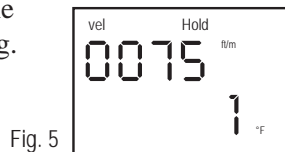

Fig. 5
4. Press MIN/MAX RECORD. Release the button when you hear a single beep. The LCD will show a number from 1-8 representing the reading point that was saved (fig. 5). The unit will return automatically to the “vel” display ready for the next reading.